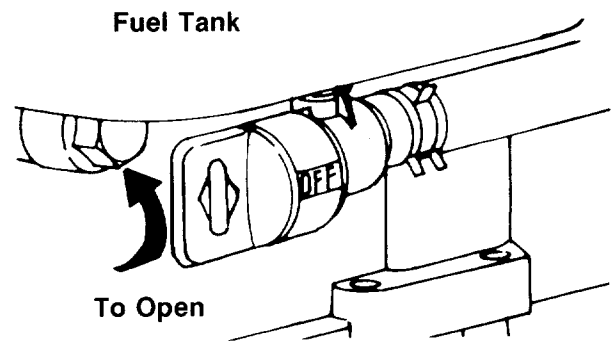

FIGURE 19.
4. Open fuel shut-off valve, located beneath the fuel tank. See figure 19.